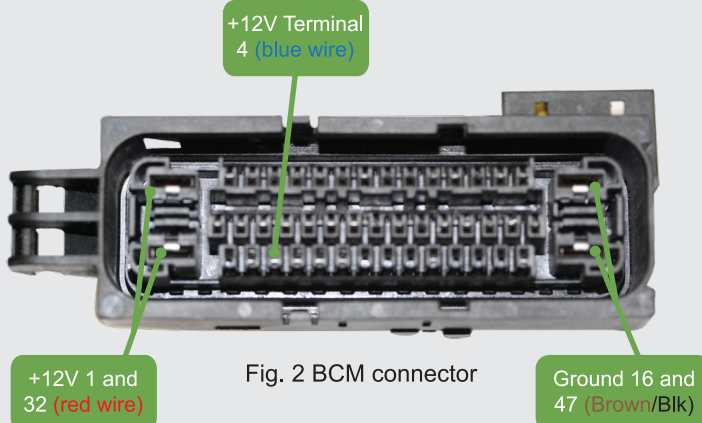

Fig. 2 BCM connector
- 1 Disconnect the large plug from the BCM Module. See Fig. 2